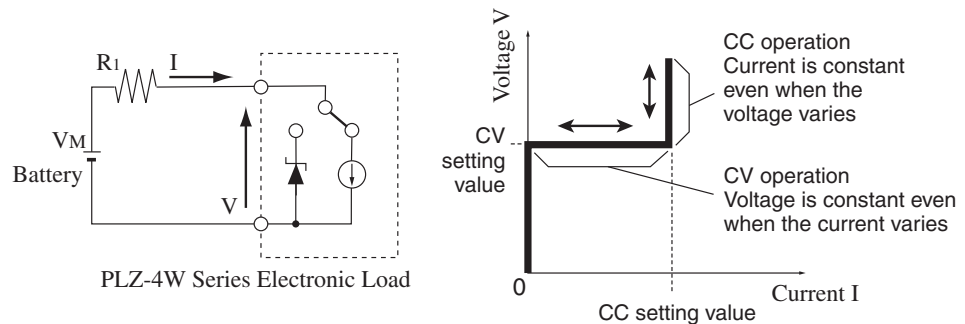

Fig. A-12 Equivalent circuit of the CC+CV mode and operation
When the PLZ-4W is used in CC+CV mode, the PLZ-4W operates as a constant current load and a constant voltage load (shunt regulator) as shown in Fig. A-12. When operating as a constant current load, the PLZ-4W sinks the specified current ( $I$ ) independent of the output voltage of the constant-voltage power supply ( $V_M$ ). When operating as a constant voltage load and  $V_M$  is greater than  $V$ , the input voltage  $V$  is kept constant even when the input current  $I$  varies. Current does not flow when  $V_M$  is less than or equal to  $V$ .
The switching between the modes is automatic. In the Fig. A-12,  $R_1$  is the internal resistance of the constant-voltage power supply. In constant-voltage (CV) mode, the PLZ-4W may operate unstably if  $R_1$  is low.
We will consider the case when checking the discharge characteristics of a battery of Fig. A-12.